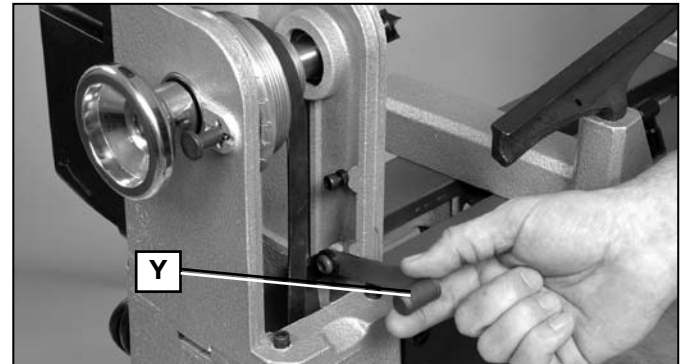

Fig. 15
2. Pull down belt tensioning lever (Y) Fig. 15 to release belt tension.
4. Lift belt tensioning lever (Y) Fig. 15 up until it snaps into place.
2. Pull down belt tensioning lever (Y) Fig. 15 to release belt tension. Do not lock it below the tab (Z).
4. Lift lever (Y) Fig. 15 and snap into place.